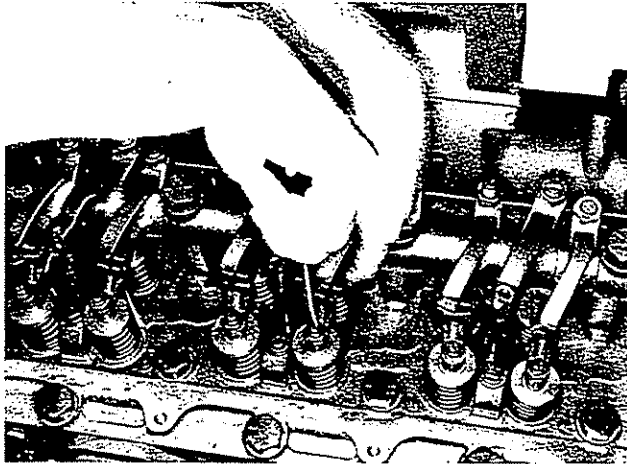

Fig. 2-40, (V51490). Adjusting crossheads — V-903
2. Use light finger pressure at the rocker lever contact surface to hold the crosshead in contact with the valve stem (without adjusting screw). Fig. 2-40.